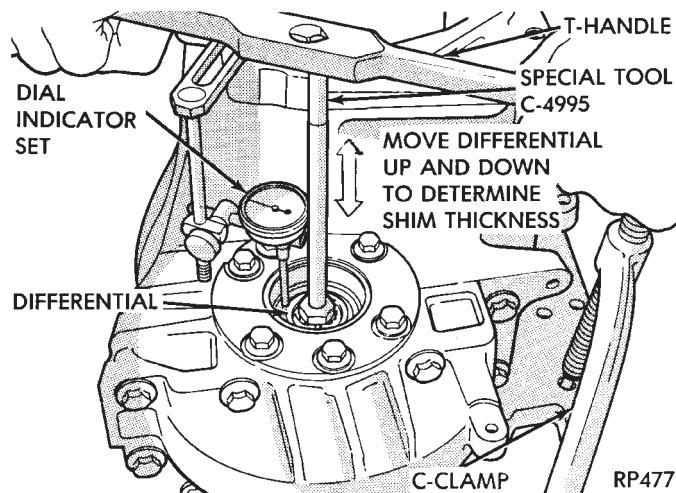

Fig. 3 Checking Differential Bearing End Play to Determine Shim Thickness
(4) Position transaxle with bell housing facing down on workbench with C-clamps. Position dial indicator.
(5) Apply a medium load to differential with Tool C-4995 and a T-Handle, in the downward direction. Roll differential assembly back and forth a number of times. This will settle the bearings. Zero dial indicator. To obtain end play readings, apply a medium load in the upward direction while rolling differential assembly back and forth (Fig. 3). Record end play.